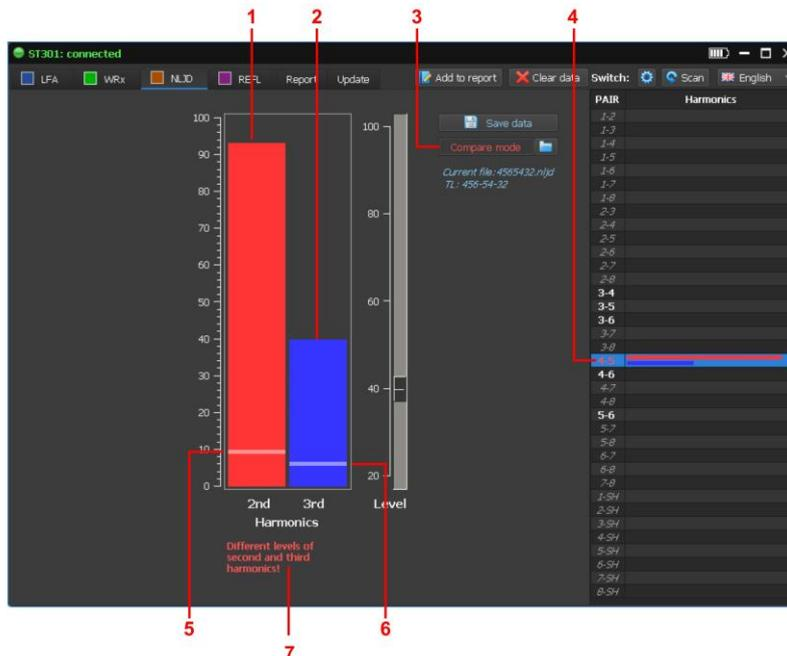

Fig.76
The color of the label on the button (Fig. 76, item 3) will change from blue to red. In the Switch table, the numbers of wire pairs in which the response levels have changed (relative to the saved) are highlighted in red (Fig.76, item 4).
- saved second and third harmonics levels (Fig.76, item 5 and item 6 respectively);
- current levels of second and third harmonics (Fig.76, item 1 and item 2 respectively). The mismatch message is displayed below the indicator. (Fig.76, item 7).
Fig. 76 shows the situation when the current levels of the second and third harmonics on the "4-5" pair significantly exceed the previously measured ones.